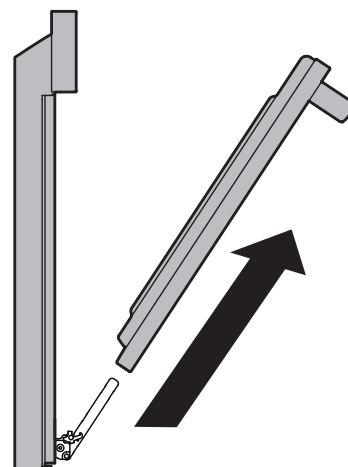

Figure 14: Remove door
4. Pull the bottom of the door toward you while rotating the top of the door toward the appliance to completely disengage the hinge levers (Figure 14).
1. Firmly grasp both sides of oven door along the door sides. Do not use the oven door handle (Figure 14).